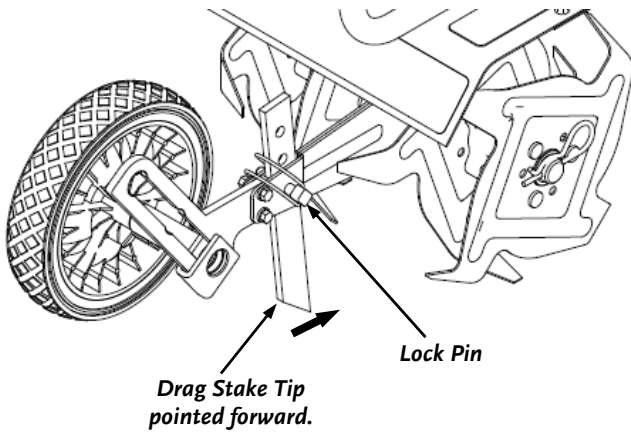

Figure 3
6. The Drag Stake shipped with its pointed end facing upwards. Remove the Lock Pin, turn the Drag Stake around and direct the point in the downward position facing towards the Tines, and then reinsert the Lock Pin (**Figure 3**).